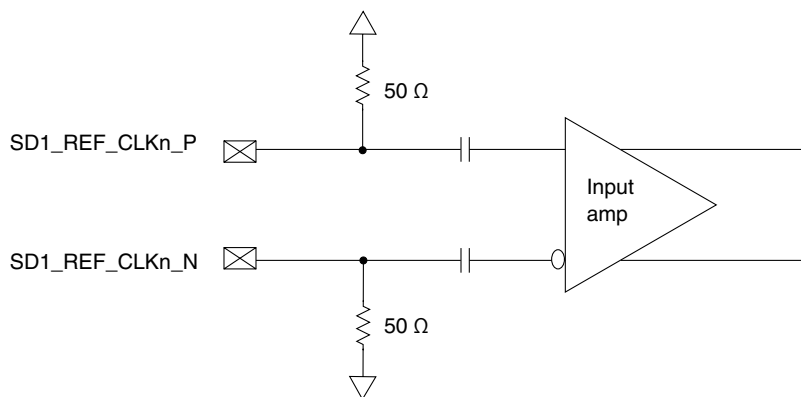

Figure 62. Receiver of SerDes reference clocks
- The SD1_REF_CLKn_P and SD1_REF_CLKn_N are internally AC-coupled differential inputs as shown in Figure 62. Each differential clock input (SD1_REF_CLKn_P or SD1_REF_CLKn_N) has on-chip 50- Ω termination to SGNDn followed by on-chip AC-coupling.